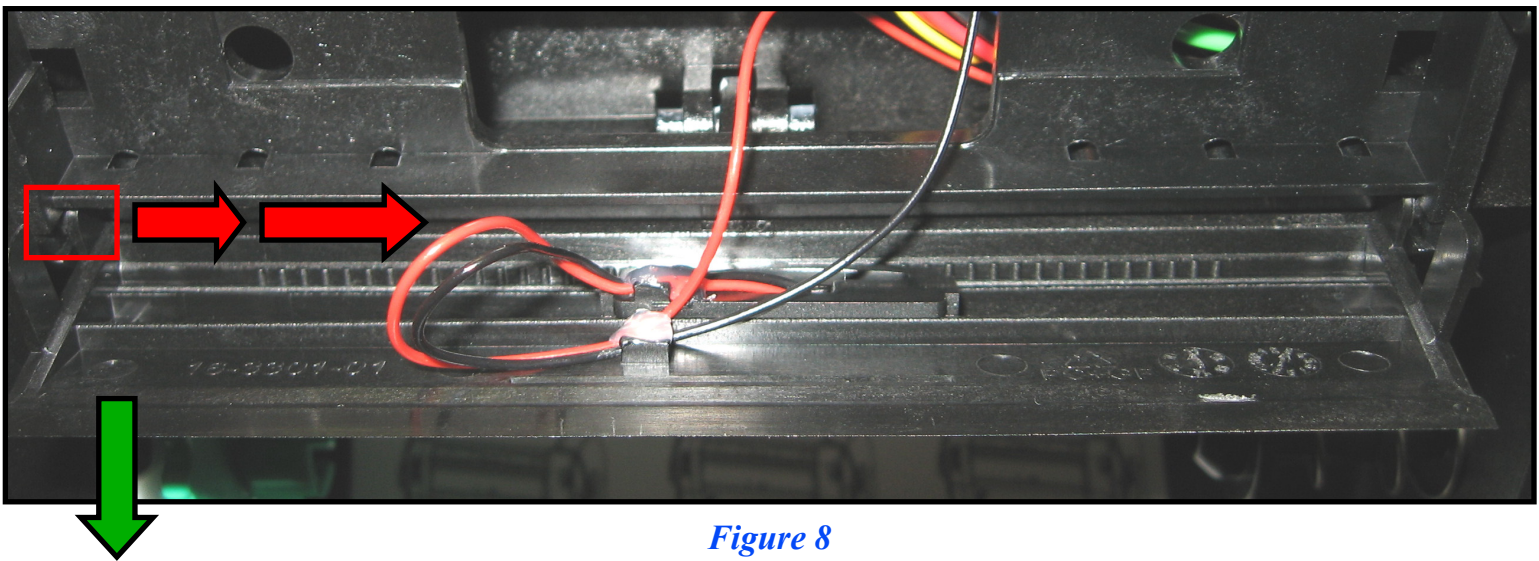

Figure 8
8.) Disconnect printhead cover from the bracket by pushing inward on post (red arrows) and then pulling the printhead cover outward (green arrow). (Fig 8)